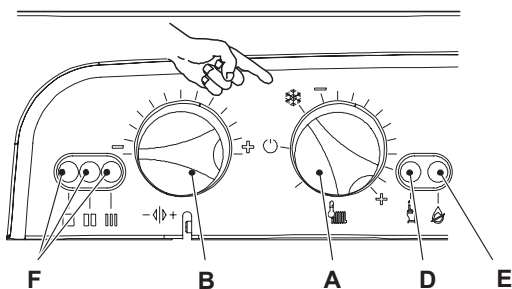

Figure 8.23
- 10 Turn the boiler OFF and ON positioning the function selector knob A as indicated in Figure 8.23